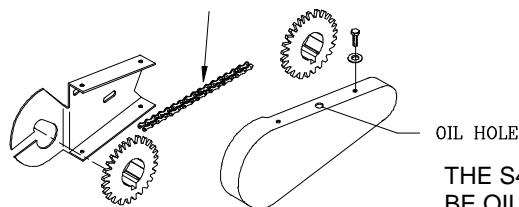

FIGURE 4
THE PISTON AND SPRING LOAD ASSEMBLY HAVE A TOTAL OF (4) GREASE FITTINGS, (FIG. 2). THREE (3) OF THESE FITTINGS ARE FOUND ON THE LOWER CASTING OF THE SPRING LOAD. APPLY A SMALL AMOUNT OF GREASE TO THESE FITTINGS ONCE A WEEK. THE SAME PROCEDURE SHOULD BE FOLLOWED FOR THE GREASE FITTING UNDER THE PISTON, (FIG. 4). THIS FITTING IS LOCATED ON THE TOP OF THE OUTSIDE CONNECTING ROD, (PART NO. 322PY).